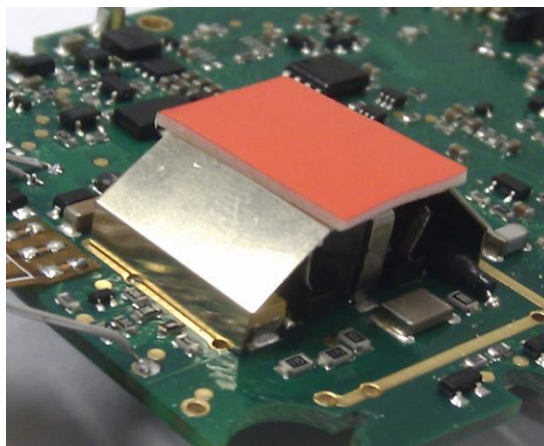

Figure 7. The dual-sided adhesive tape on top of the interference shield.
3. A piece of dual-sided adhesive tape (approx. 16×12 mm) is attached on top of the interference shield as shown in Figure 7. The tape is pressed with fingers to ensure that the adhesive tape attaches itself properly.